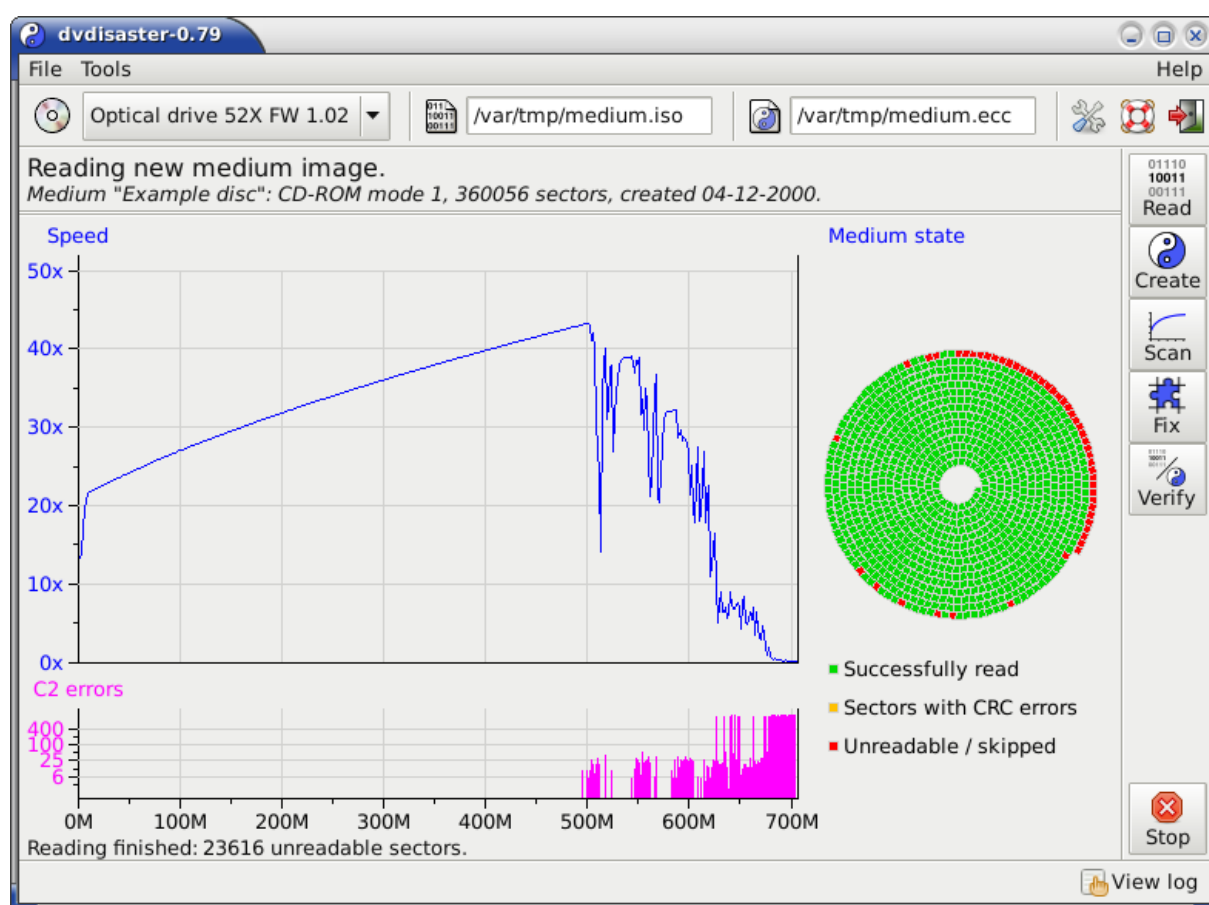

Figure 1: Reading a defective medium.
**Recovery of aged media.** The medium processed here has become discolored and partly unreadable in its outer region. A reading attempt yields about 23.600 unreadable sectors of 360056 sectors total; resulting in about 6,6% defective sectors. Figure 1 shows the dvd disaster window after the reading attempt. The distribution of reading speed and read errors over the medium is graphically shown. The still readable sectors are stored in an ISO image called *medium.iso*.